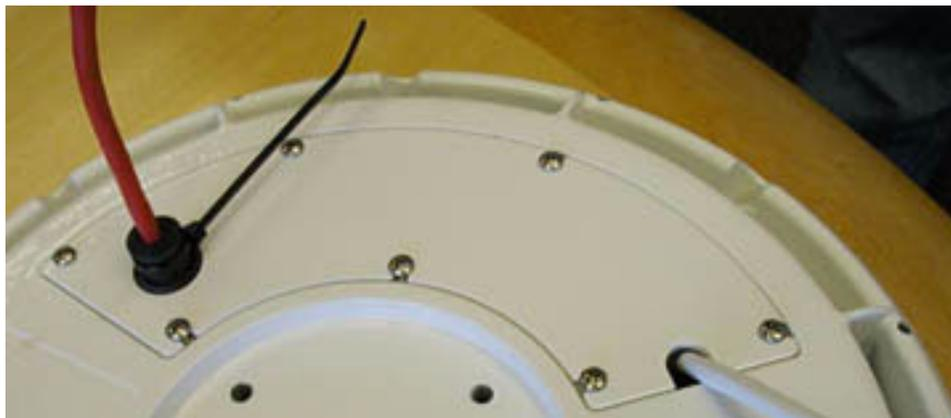

Figure 2-8 Serial Adapter Cover Installation
8. Slide the cover down over the gasket and secure the cover using the screws provided. Make sure the Ethernet cable passes through the insert in the cover as shown in Figure 2-8. Use the ty-wrap to further weather-proof the gasket. Cut the excess ty-wrap off.